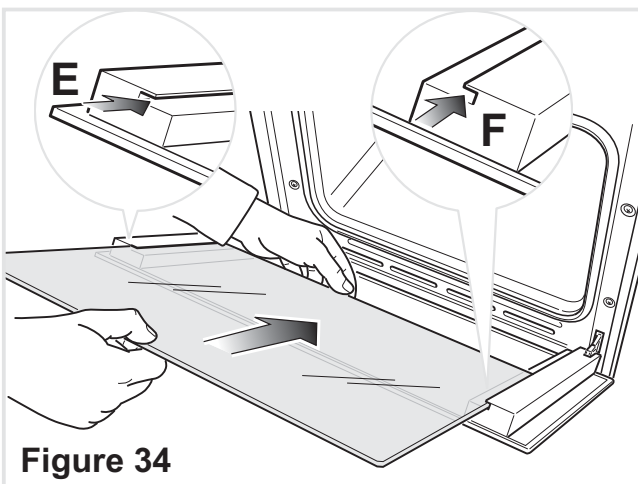
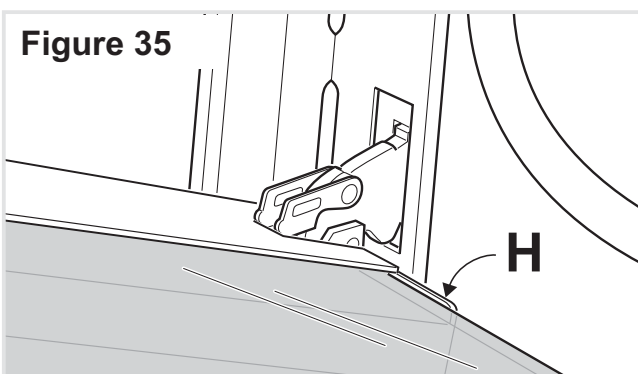

Figure 34
Figure 35
- Insert the pane in the left "E" and right "F" slide guides (fig. 34), and gently slide it to the retainers "H" (fig. 35).